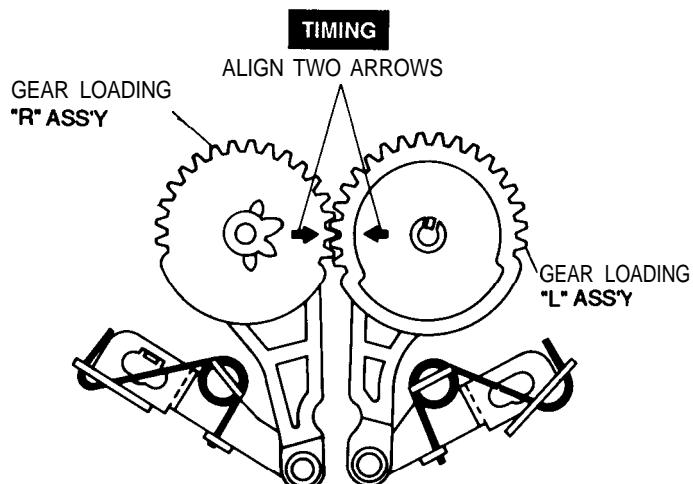

Fig. 58 Assembly of Gear Loading "L", "R" Ass'y
- 1) When reinstalling, be sure to align two arrows as shown in Fig. 58. (Refer to timing point)
2) Remove the slide "S", "T" from the gear loading "L", "R" ass'y. (Refer to Fig. 58)